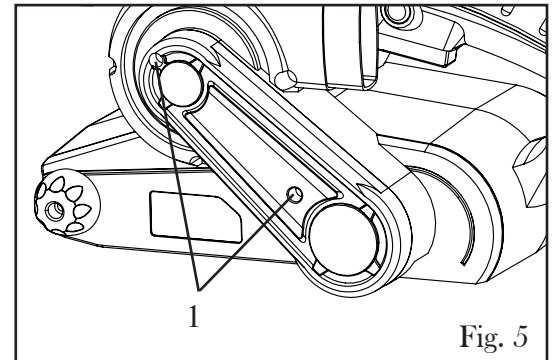

Fig. 5
2. Remove the cross head screws (Fig 5 - 1) with a screwdriver and take off the drive belt cover to expose the drive belt.